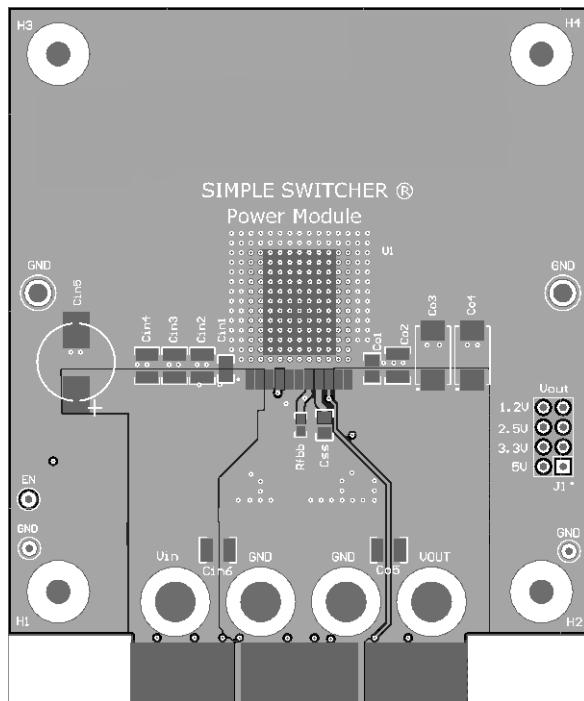

**Figure 56. Critical Current Loops to Minimize**
From an EMI reduction standpoint, it is imperative to minimize the high  $di/dt$  paths during PCB layout as shown in Figure 56 above. The high current loops that do not overlap have high  $di/dt$  content that will cause observable high frequency noise on the output pin if the input capacitor ( $C_{IN}$ ) is placed at a distance away from the LMZ23610. Therefore place  $C_{IN}$  as close as possible to the LMZ23610 VIN and PGND exposed pad. This will minimize the high  $di/dt$  area and reduce radiated EMI. Additionally, grounding for both the input and output capacitor must consist of a localized top side plane that connects to the PGND exposed pad (EP).